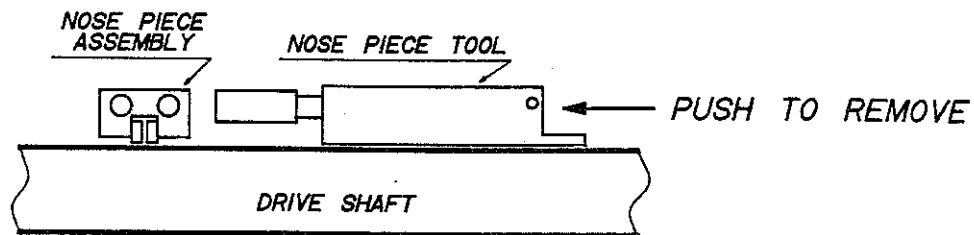

FIGURE 1-7. REMOVING THE NOSE PIECE ASSEMBLY
5. Place the cleaning strip between the pinch roller and the drive drum, with the tacky side of the cleaning strip toward the friction drive wheel as shown in Figure 1-7.